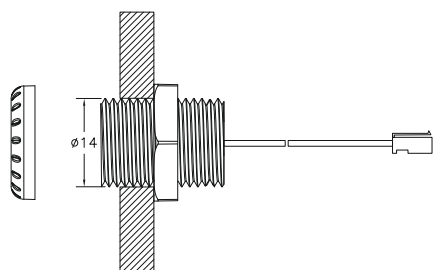
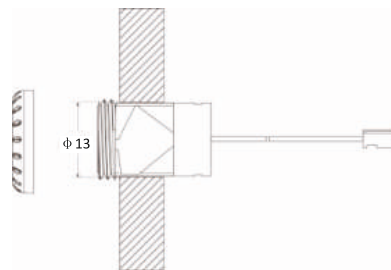

Fig.1
Fig.2
- As shown in the (Fig.1/Fig.2), drill a 14mm diameter hole for (Fig.1) and 13mm for (Fig.2) on the required place, install the infrared sensor on the left and connect the plug to the controller.